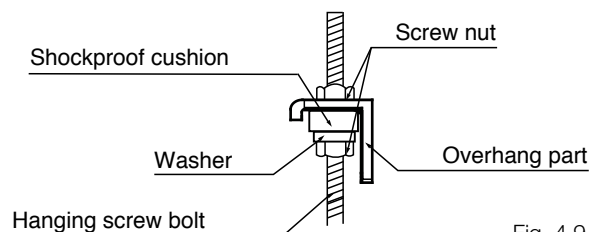

Fig. 4.9
8. Mount the indoor unit onto the hanging screw bolts with a block. Position the indoor unit flat using a level indicator to prevent leaks. (See Fig. 4.9).